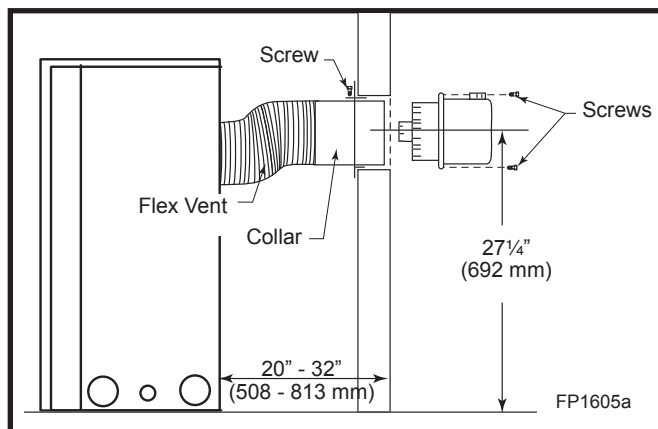

Fig. 25 The centerline of the termination must be 27¼" (692 mm) off the floor.
1. Determine where the termination is to be installed. (Fig. 25)